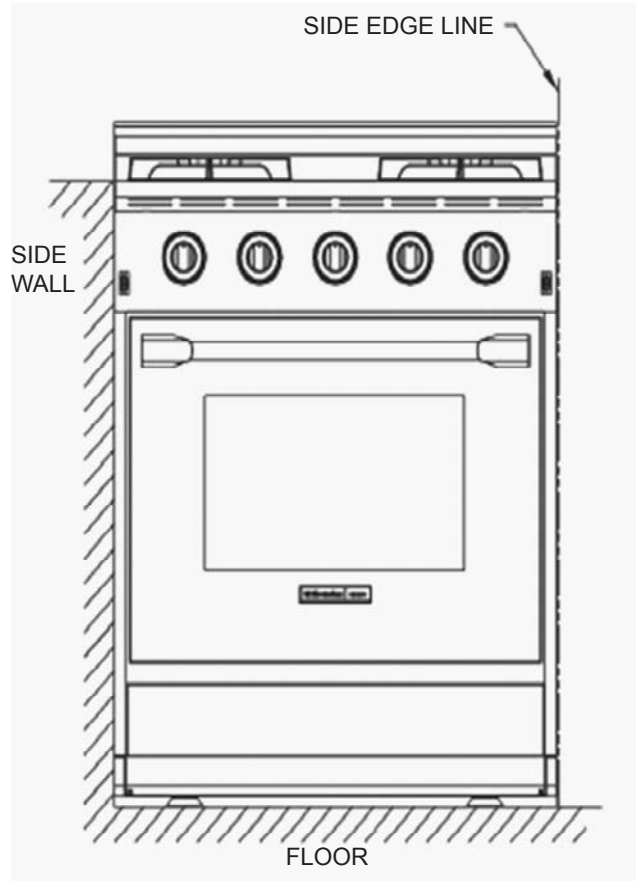

Figure 1
1. Position the range into the cabinet and mark the range's side edge line. (See Figures 1 and 2.)